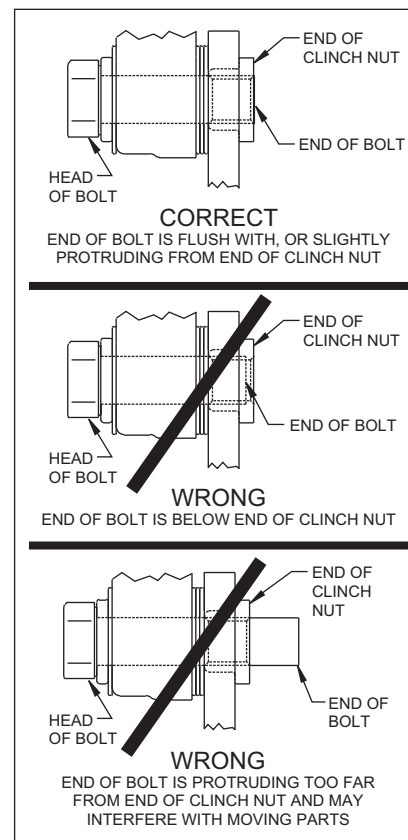

Figure 4.
•**NOTE:** Please reference the caution statement at the beginning of the assembly instructions. Mount the caliper (18) onto the caliper bracket (1) using two bolts (20), two washers (19) and four washers (21). Finger tighten. View the rotor (11) through the top of the caliper (18). The rotor (11) should be aligned in the center of the caliper (18). If not, loosen the two bolts (20) and adjust the caliper (18) by using 0.032 inch thick shim washers (22). The shim washers (22) should be placed between the caliper (18) and the flat washers (21). Finger tighten and recheck alignment. Add as many shim washers (22) as necessary to achieve the correct alignment. **NOTE:** The end of the bolt must be flush with or slightly protruding from the head of the clinch nut. See Figure 4. Place spare shims (22) between washer and caliper mounting ear to achieve the proper mounting fastener configuration. Always use the same amount of shims on both the top and bottom caliper mounting bolts (20). Loosen the two bolts (20) and apply red *Loctite*® 271 to bolt threads (20) and torque to 40 ft-lb. Safety wire the two bolts (20).
•Install the disc brake pads (23) and secure using cotter pin (24).